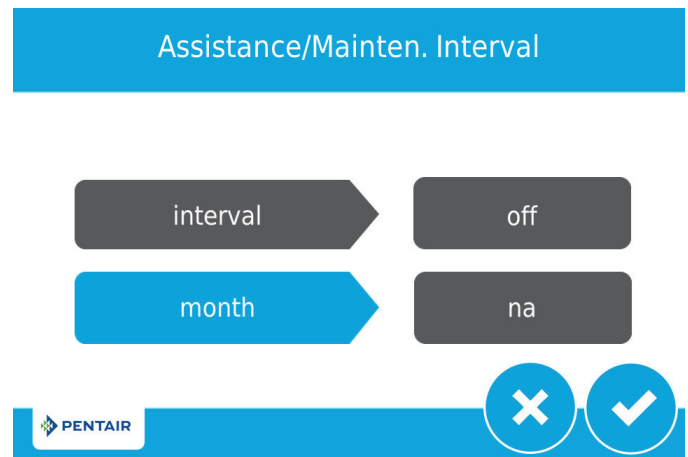

Figure 7 Assistance/Mainten. Interval Screen
4. After pressing , the Assistance/Mainten. Interval screen (Figure 7) is displayed.